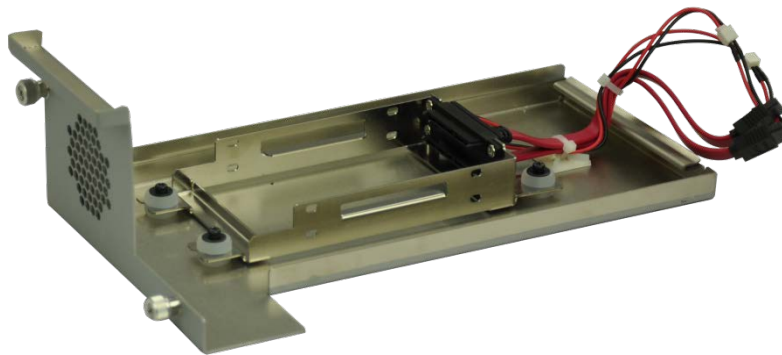

Figure 3-2: Remove the Cover from TANK-870AI series
Step 2: Unplug the SATA signal and power cables connected to the TANK-870AI series, and then put the cover on a flat surface (**Figure 3-2**).
- Step 2:** Unplug the SATA signal and power cables connected to the TANK-870AI series, and then place the cover on a flat surface (**Figure 3-2**).